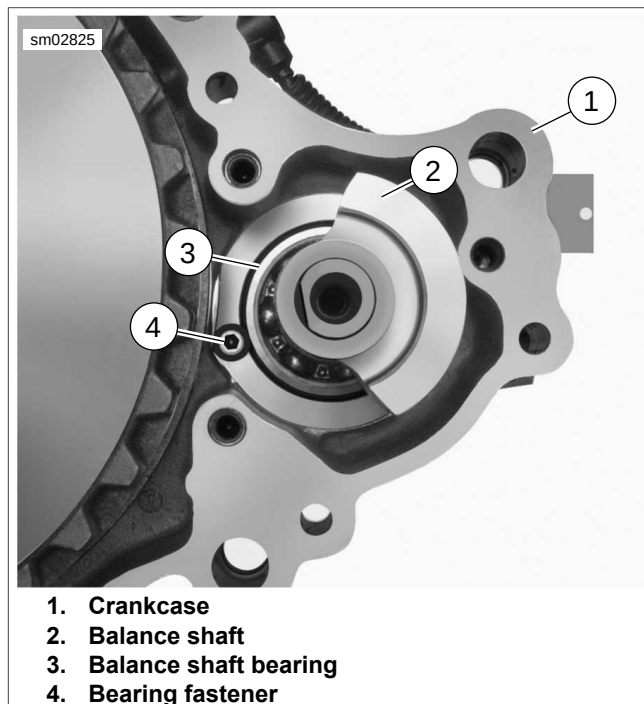

Figure 3-150. Balance Shaft Bearing
1. See Figure 3-150. Remove bearing fastener (4) from crankcase (1).
- See Figure 3-150. Install **new** bearing fastener (4). Tighten to 40-70 **in-lbs** (4.5-7.9 Nm).